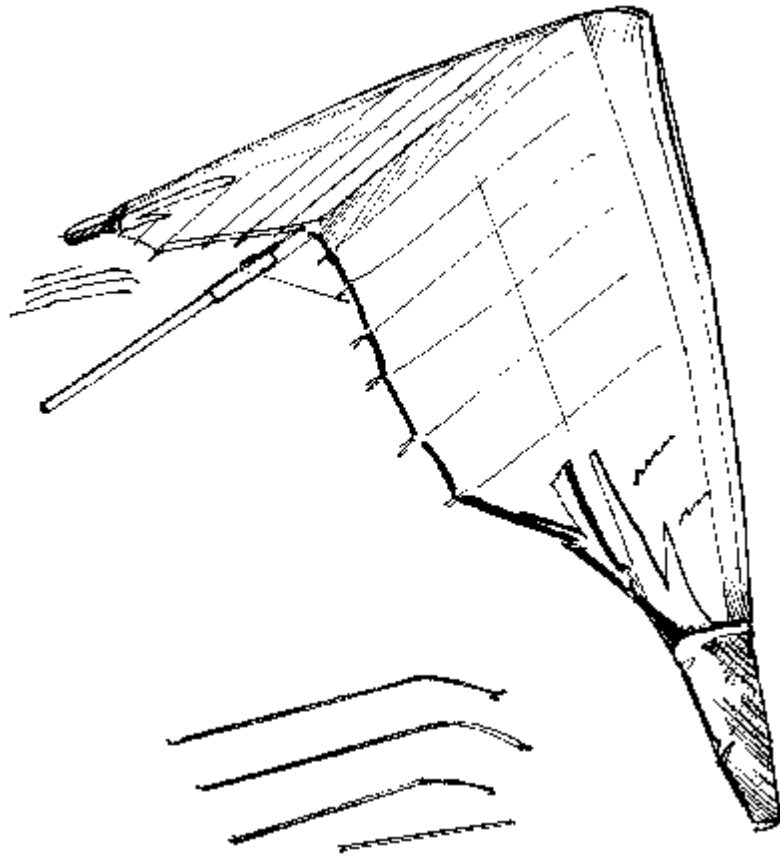

Fig. 13
4.1.2. Put out the washout struts and place them along the leading edge out of the sail in direction of the tips. Remove the battens from the outboard section of the sail. Put the outboard wing tip bags on (Fig. 13).